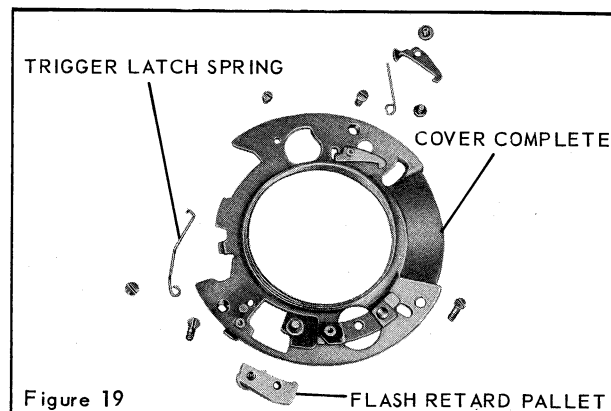

Figure 19
| | | It may be necessary to reduce the tension on the TRIGGER LATCH SPRING, figure 19. |
| | The FLASH RETARD PALLET, figure 19, is not meshing properly with the winding lever. | With special Tool No. 657, turn the eccentric post so that the pallet will mesh more firmly in the teeth of the winding lever. Make certain the post is tight on the cover after making this adjustment. |
2. Speed and diaphragm index plate by lining up the three projections in the center of the plate with the three cutouts on the outside edge of the central collar on the COVER COMPLETE, figure 19. Turn the plate clockwise until it is properly positioned.
4. Trip the shutter and lightly hold the winding lever down around the central collar on the cover. As the shutter is tripped, the end of the latch should fall into the slot on the cover. If it does not, add more tension to the TRIGGER LATCH SPRING, figure 19. Check for a bind between the trigger latch and the TRIGGER ASSEMBLY, figure 21, at the point of attachment. The winding lever should contact the trigger latch, push the latch out of the slot in the cover, and open the shutter blades. After the shutter has been tripped, the latch should return to rest on the ledge just above the small slot in the cover.
3. TRIGGER LATCH SPRING, figure 19.
4. Lift up on the loose end of the TRIGGER LATCH, figure 21, sufficiently to clear the COVER COMPLETE, figure 19. Move the loose end of the latch until it is clear of the CASE, figure 27.
5. FLASH RETARD PALLET, figure 19.